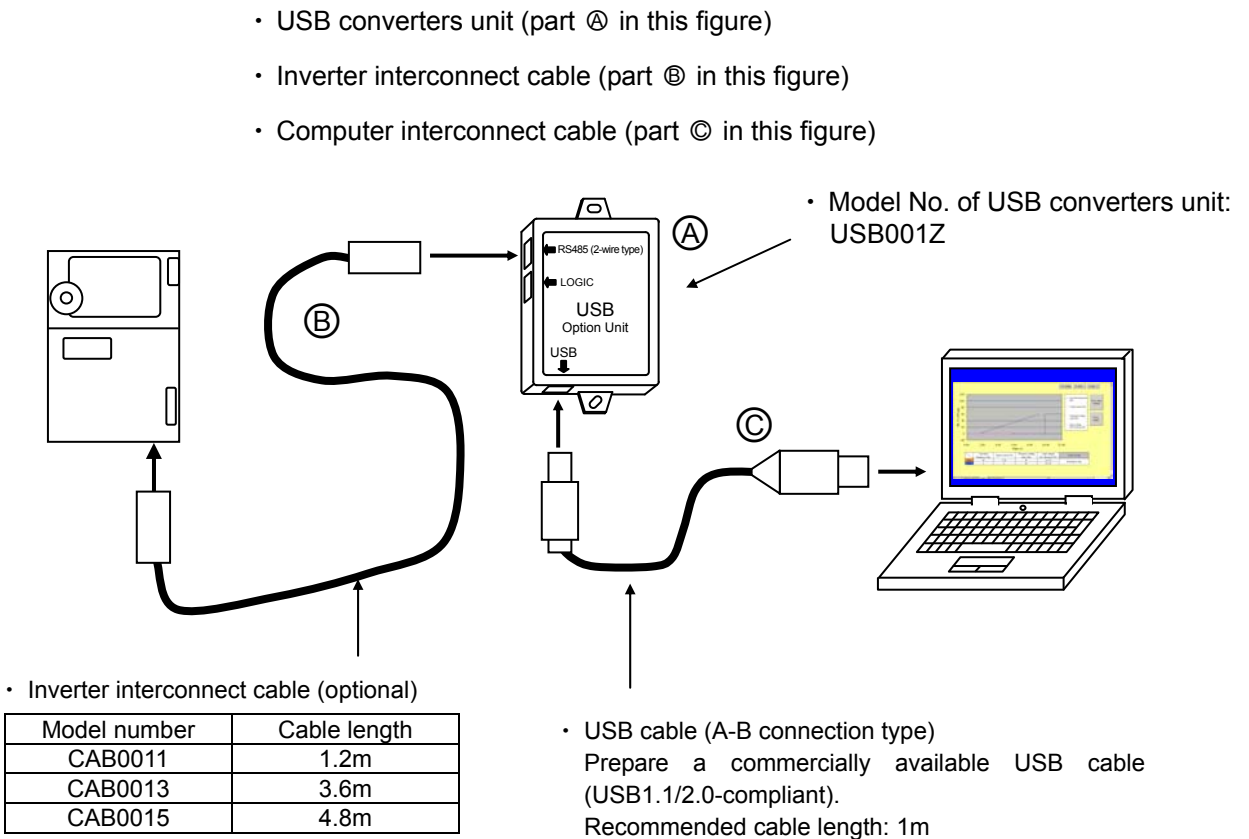

Fig.1 An example of connection of USB converters unit
*2 To use PCT002Z-E, the USB converters unit shown in Fig. 1 below are required.